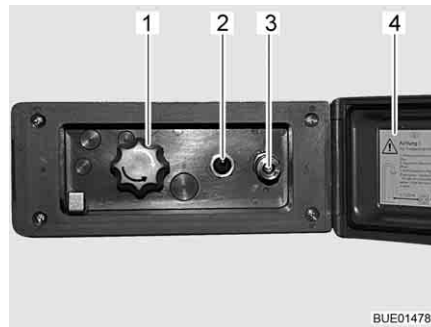

Fig. 138 External shower connection point
- Unlock and open the cover (Fig. 138,4).
- Attach hose of the external shower to the quick closure (Fig. 138,3).
- Switch on the water pump using the switch (Fig. 138,2).
- Adjust the water temperature with the rotary knob (Fig. 138,1) as desired.
- Switch off the water pump using the switch (Fig. 138,2).
- Close the cover (Fig. 138,4) and lock with key.
- Turn knob (Fig. 138,1) to the centre position.